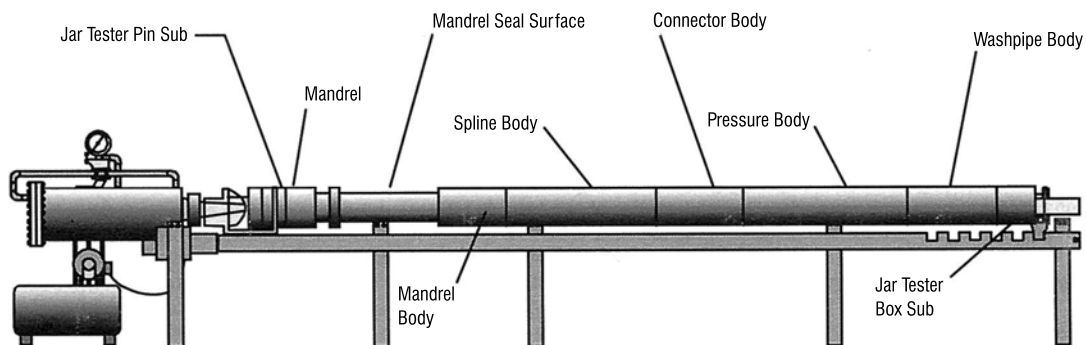

Figure 11
After the Super II Fishing Jar has been completely assembled and filled with Bowen® Jar Lube (69), it is to be tested in a Bowen® Jar Tester (or equivalent) to ensure that it functions properly. (See Figure 11 below.)